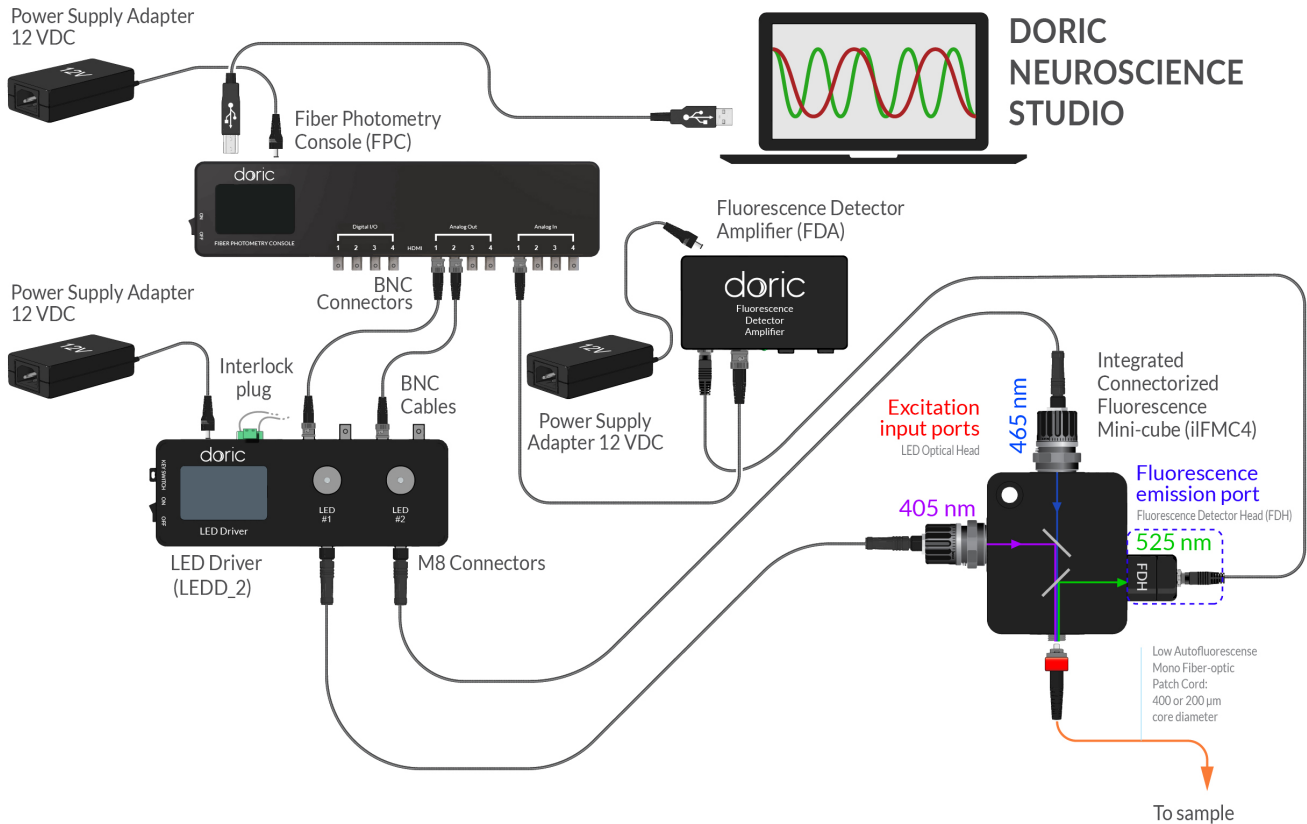

Figure 2.12: 2-signal demodulation setup
8. The **Sample (S)** port of the *4-channel Fluorescence Mini Cube* connects to the subject using an optical fiber.
9. Connect the *Built-in Fluorescence Detector Head* of the **Fluorescence (F)** port to the *Fluorescence Detector Amplifier*.
10. Connect the *Fluorescence Detector Amplifier* BNC port to the corresponding input on the *Fiber photometry console* using a BNC cable (Fig. 2.12).